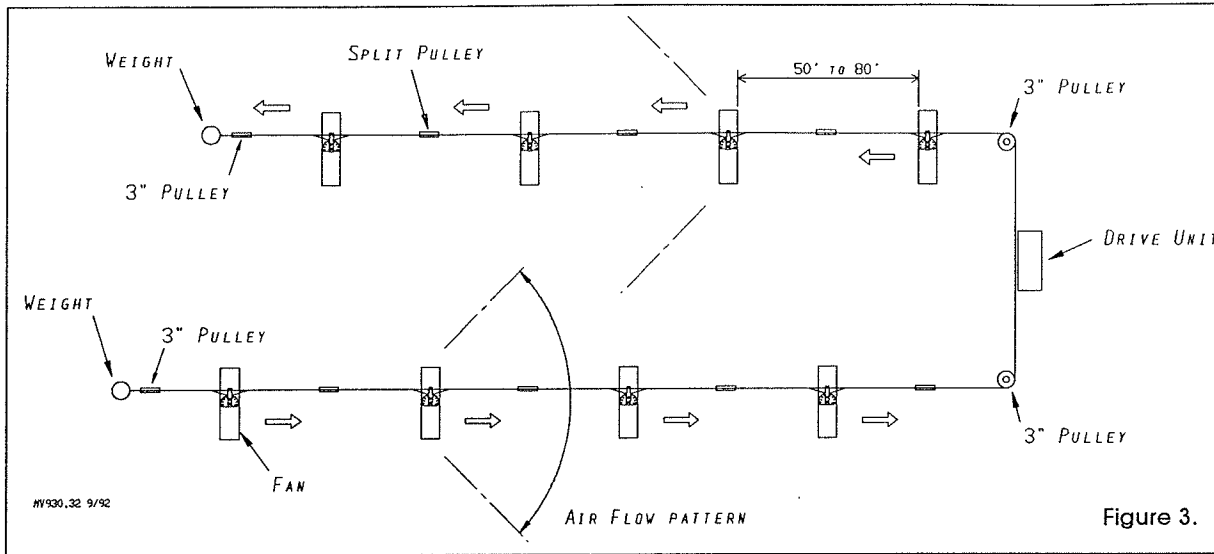

Figure 3.
The Swivel Kits should all be installed on the same side of the cable. Note cable-to-cam relationship shown in Figures 3, on page 4.
Figure 3 shows critical information such as pulley, Drive Unit, and weight locations. Additionally, direction of air flow, fan spacing, and Cam positioning are also shown. Refer to this figure as necessary during the installation.
Also, install a 3" pulley at each corner, as shown in Figure 3.
2. Install the 2" cable support pulleys along the entire length of the system. The cable support pulleys should be installed between each fan, as shown in Figure 3.